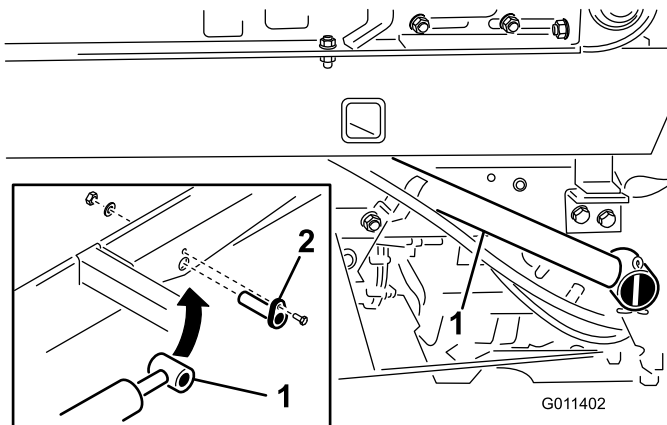

Figure 11
1. Secure each lift cylinder rod end to TopDresser base with a cylinder pin (Figure 11).
2. Secure each cylinder pin to TopDresser base with a 1/4 x 3/4 inch capscrew, flatwasher and nut (Figure 11).